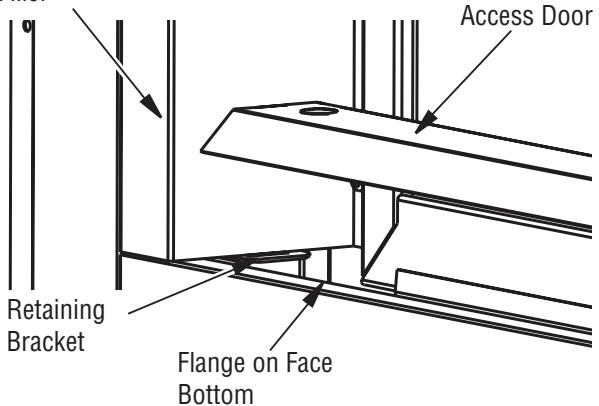

Figure 24 - Access Door for See-Thru Applications
1. Place access door in front of fireplace opening with the slanted side facing forward. The slanted surface will slide underneath the flange of the bottom face. Insert tabs on side of access door into slots on retaining brackets (*See Figure 24*).
2. Remove access door (see Figure 24, Page 15).